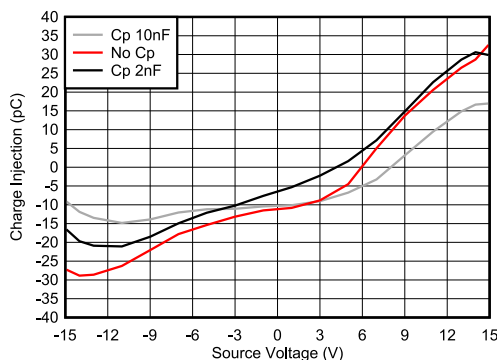

Figure 8-3. Charge Injection Compensation
The TMUX6219 contains specialized architecture to reduce charge injection on the source (Sx). To further reduce charge injection in a sensitive application, a compensation capacitor (C_p) can be added on the drain (D). This will ensure that excess charge from the switch transition will be pushed into the compensation capacitor on the drain (D) instead of the source (Sx). As a general rule, C_p should be 20× larger than the equivalent load capacitance on the source (Sx). Figure 8-3 shows charge injection variation with source voltage with different compensation capacitors on the Drain side.